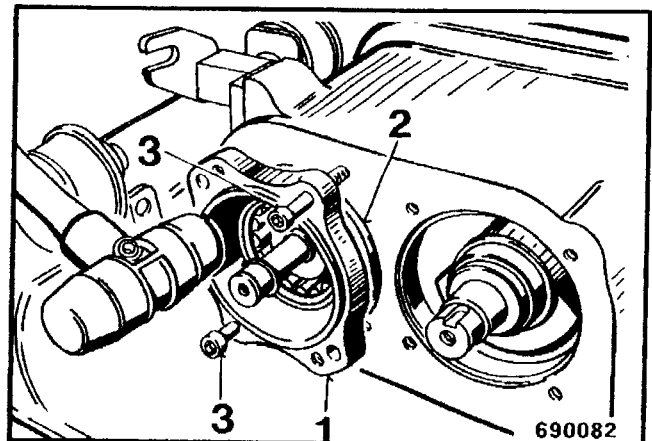

Fig. 3
- Lubricate the seal ring 2 (Fig. 3) and push it onto the cylindrical recess on the control housing flange.
- Screw two guide screws (3) into the housing through the mounting bores of the control housing flange (1).